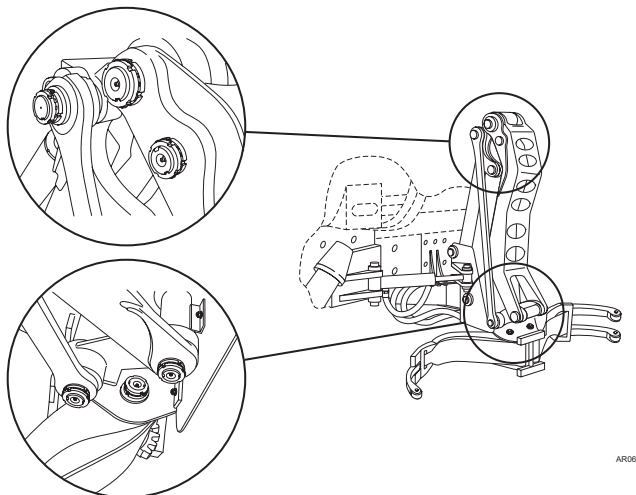

Figure 29
The torque on the spanner nuts (Figure 29) must be inspected and re-torqued at a Preventive Maintenance interval of 150 hours or three (3) weeks of use, whichever occurs first. Using a spanner socket, check and torque the spanner nut to 40 ft.-lbs.